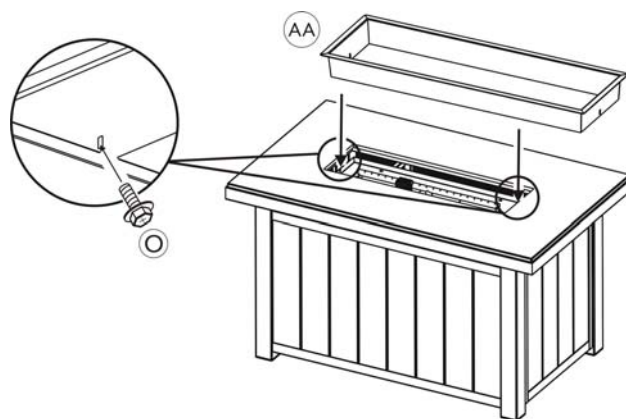

Figure 7
6. Place the burner pan protective ring into the firepan / burner assembly as shown in Figure 7. Align the holes in the burner pan protective ring with the pre-drilled holes on the burner pan assembly. Secure the burner pan protective ring by using the two M4 screws as shown in Figure 7.